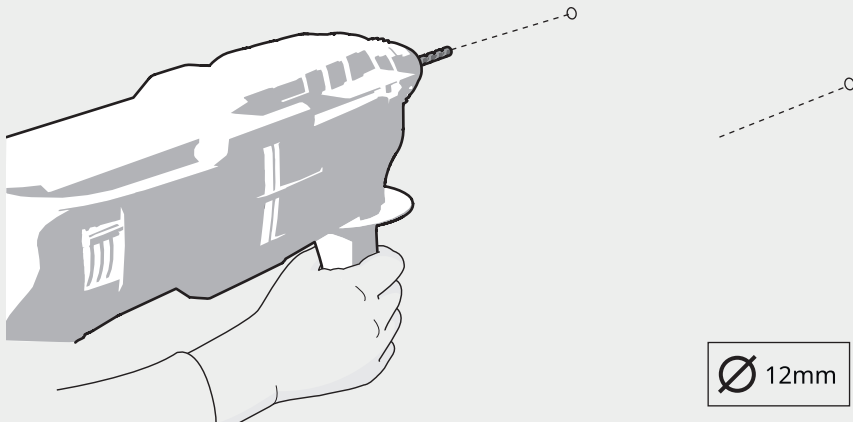

Figure 8 Drilling the screw holes.
3. Drill the holes (Figure 8). Use a drill diameter of 12 mm and drill at least 80 mm deep.